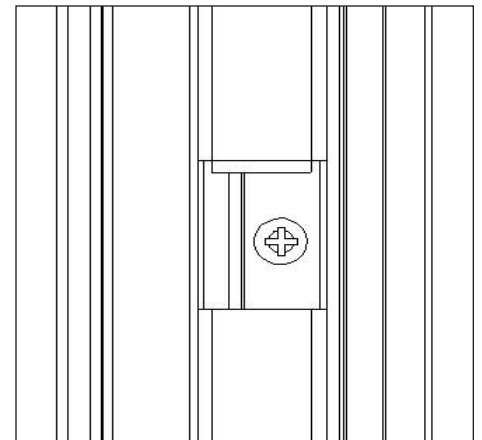

Figure 9
D. Carefully place assembled trim kit on oven. Check that it is level and secure with 4 mounting screws (805187) for trim (See Fig. 9).